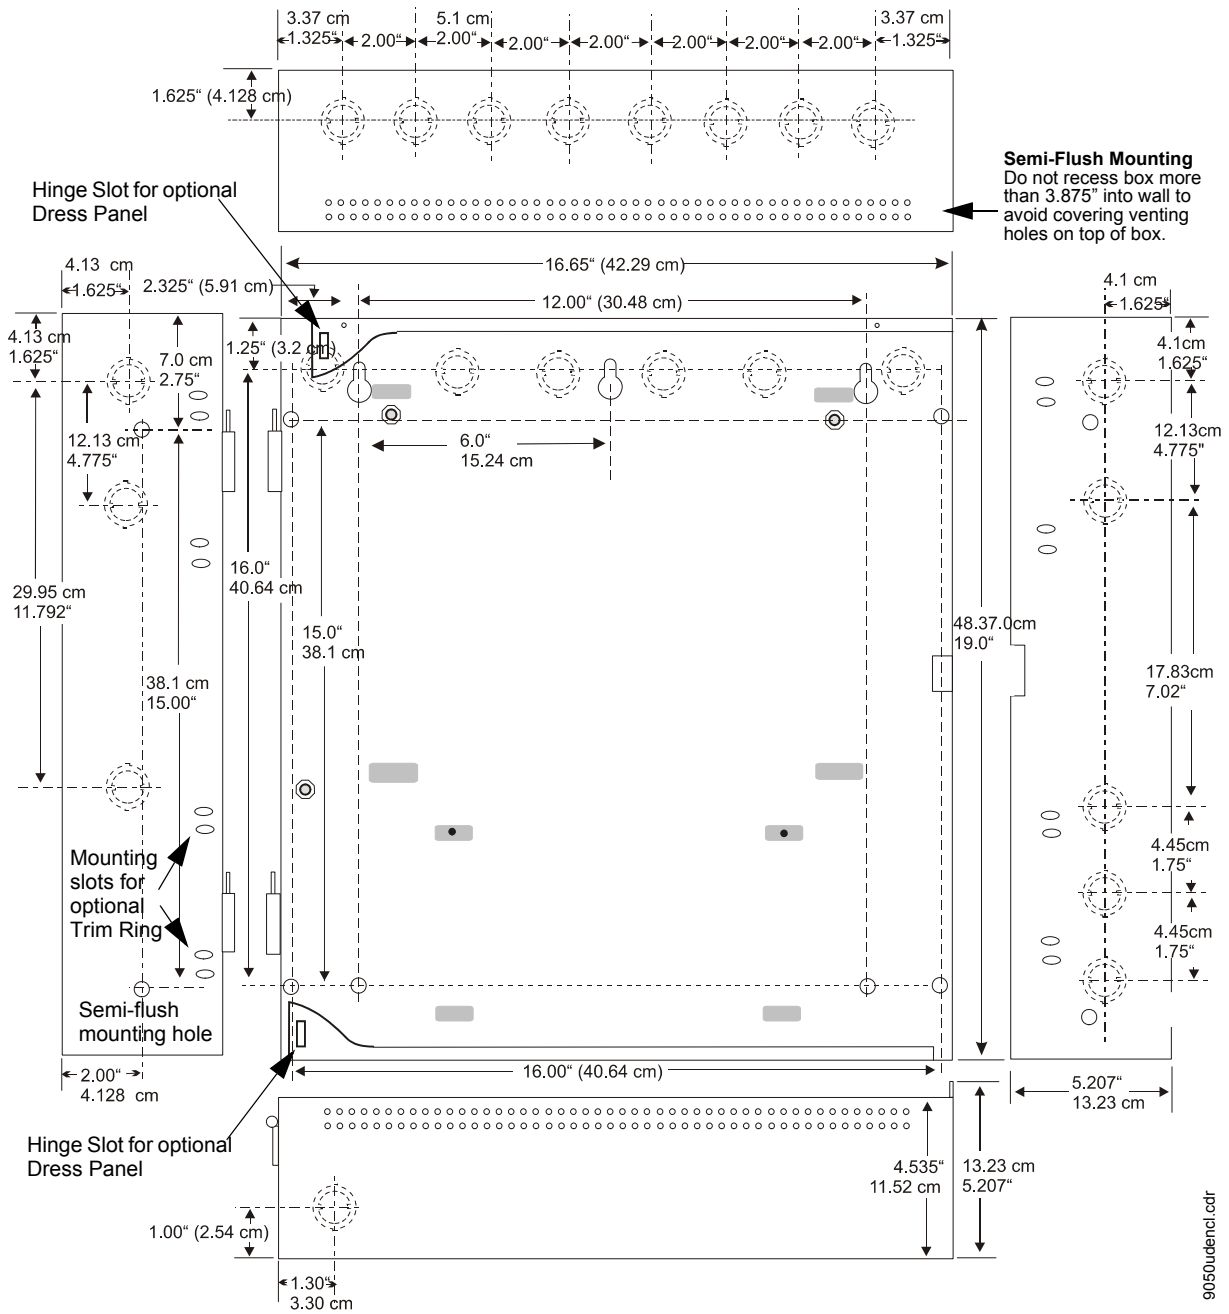

Figure 2.3 MS-9200UDLS Cabinet Mounting
1. Mark and predrill hole in the wall for the center top keyhole mounting bolt using the dimensions illustrated in Figure 2.3 on page 47.